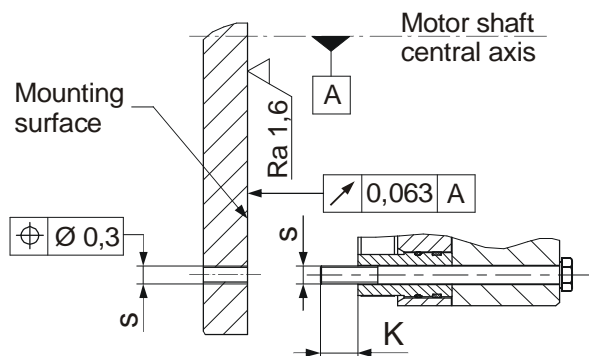

Fig. 8
- On hub designs the hub bore (15) tolerances and the shaft must be selected so that the hub toothing (15) is not widened. Widening of the toothing leads to the rotor (3) jamming on the hub (15) and therefore to brake malfunctions. Recommended hub - shaft tolerance H7/k6. If the hub (15) is heated for better joining, the O-ring (16) must be removed beforehand and re-mounted after hub installation. The max. permitted joining temperature of 200 °C must not be exceeded.
- Dimensioning of the key connection according to the requirements shaft diameter, transmittable torque and operating conditions must be carried out. For this, the corresponding user data must be known or the customer must carry out the dimensioning according to the valid calculation basis DIN 6892. For the calculation, a hub quality of $Re = 300$ N/mm² should be used. The length of the key should lie over the entire hub (15).
- The mounting dimensions and the screw-on surface s with depth $K + 2$ mm ($K =$ screw projection) acc. Catalogue or applicable Assembly Drawing must be given (Fig. 8).